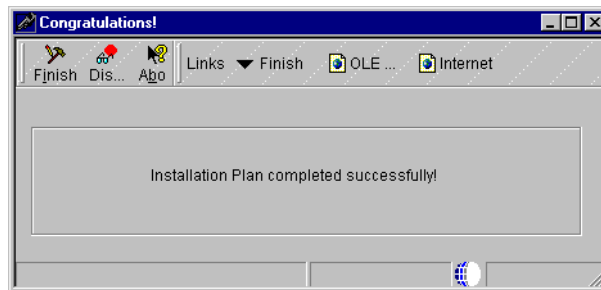

Figure 84. Installation Plan completion message
1. A message like the one shown in Figure 84 appears, indicating the successful completion of the Installation Workbench.